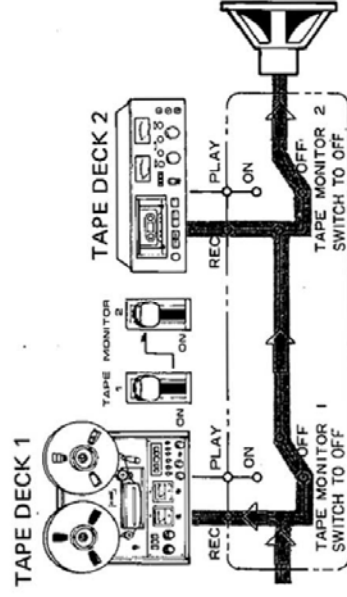

Fig. 8
- When recording with two tape decks simultaneously, do not operate the TAPE MONITOR 1 switch as this will interrupt the signal to the TAPE 2 deck (see Fig. 8).
A program source (records, FM broadcasts, etc.) can be recorded with tape deck (Fig. 8).